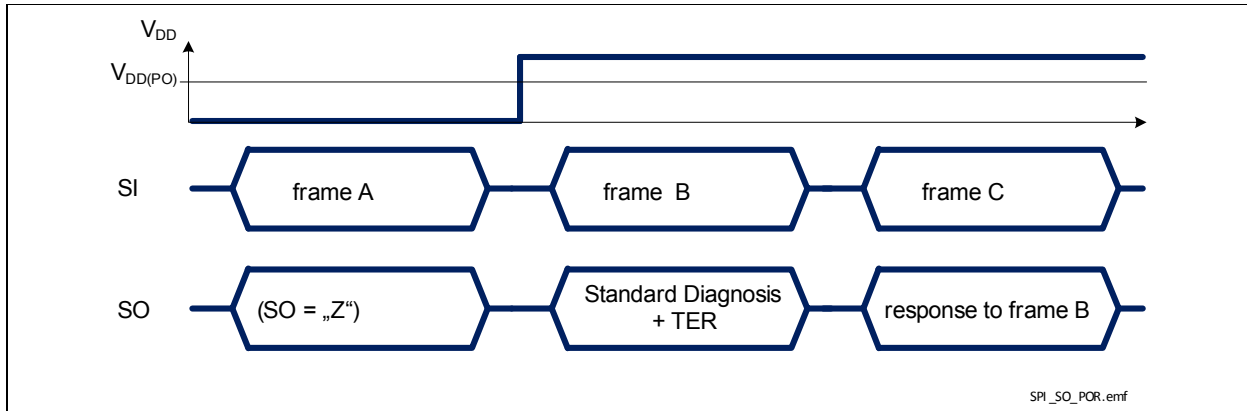

Figure 33 BTS54220-LBE response after coming out of Power-On reset at V_{DD}
- when BTS54220-LBE logic supply comes out of Power-On reset condition, as shown in **Figure 33**